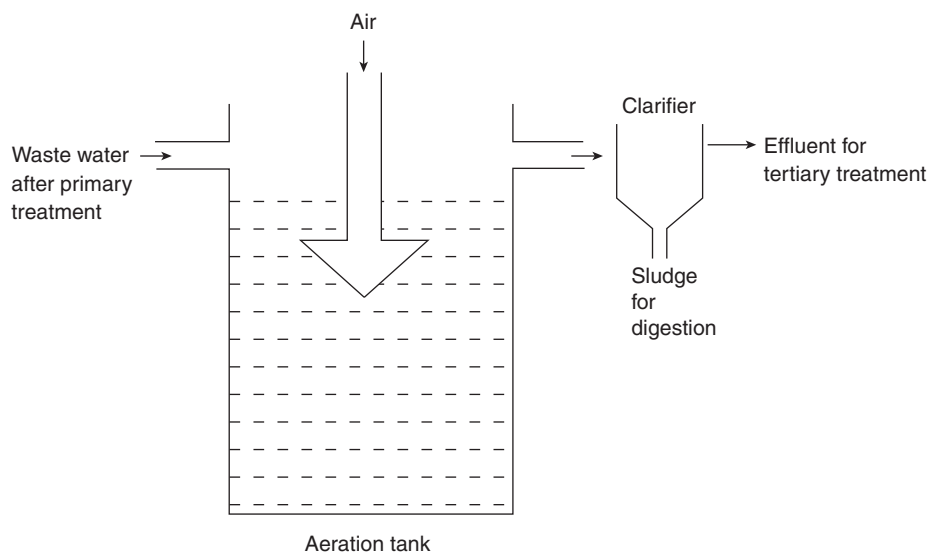

Figure 12 Schematic representation of activated sludge process.
3. **Activated sludge process (ASP):** In this process, wastewater is pumped into an aeration tank and air or oxygen is passed through it (Figure 12). An activated sludge is generated by aeration of sewage which consists of organic material containing large number of micro-organisms. This is then added as a floc to wastewater coming in after primary treatment. The mixture is aerated and agitated. The microorganisms feed on the organic matter in the wastewater and degrade it. After a sufficient period of time, the water is taken to a settling tank and allowed to settle. The supernatant is used for the next treatment. The healthy sludge is then returned to the aeration chamber, for it to react with a fresh batch of wastewater and the waste sludge is taken up for sludge treatment.